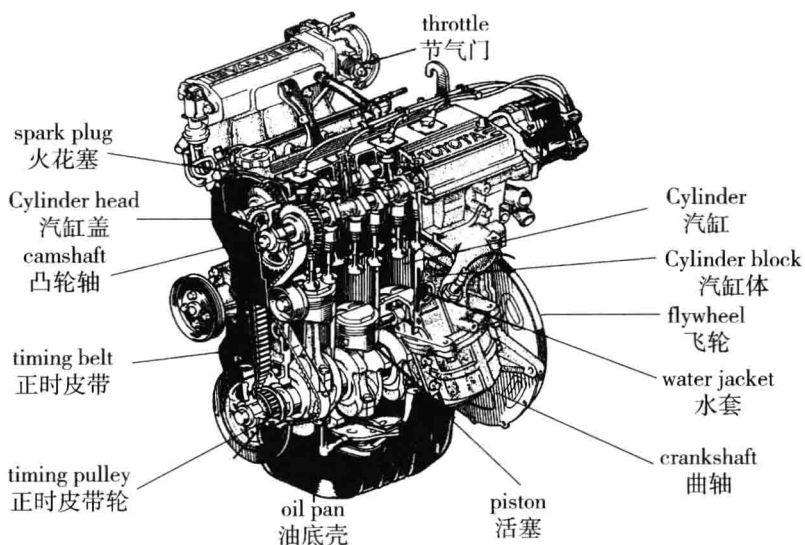

图 2-1 An Overview of a Gasoline Engine
1. An Overview of a Gasoline Engine(图 2-1)